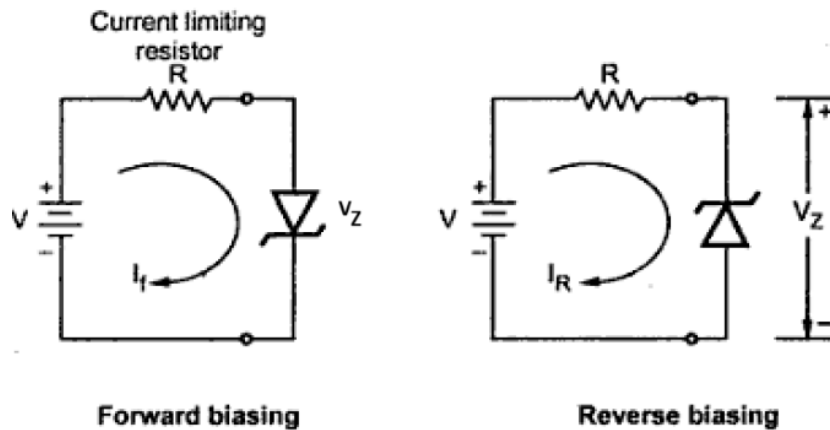
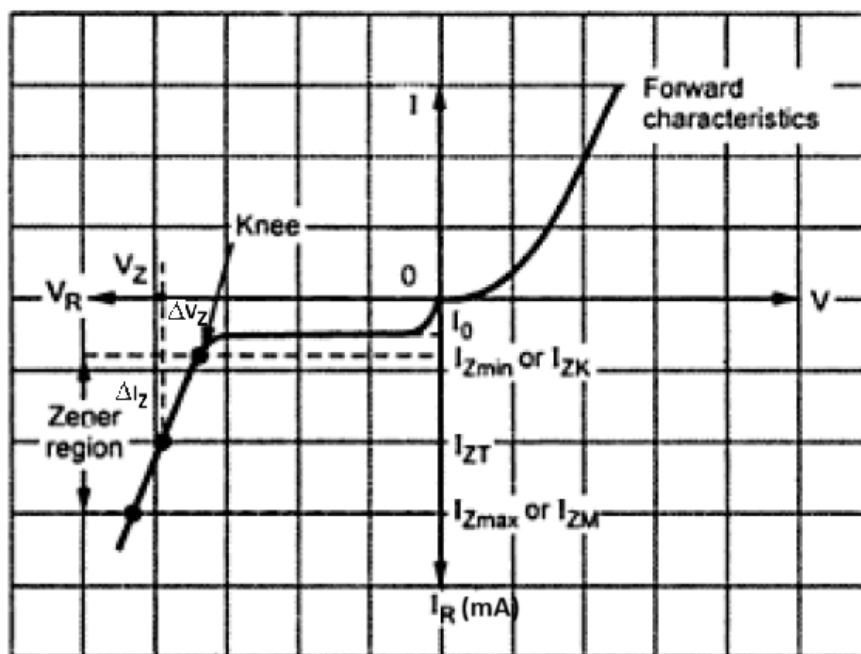

Figure 1.22: Forward and Reverse biasing of the Zener diode
Figure 1.23: VI Characteristics of the Zener diode
The forward and reverse biasing of the zener diode is shown in the Figure 1.22. The VI characteristics of the Zener is shown in Figure 1.23
- In the forward biased condition, As long as forward voltage is less than barrier voltage, the current flowing is very small. As it increases beyond this voltage the depletion region becomes very thin and current increases suddenly. This increase in the current is exponential as shown in the Fig. 1.23.